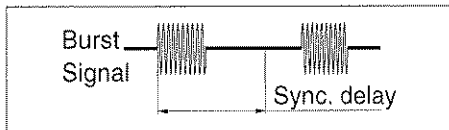

Figure 4-5 Set the sync delay so that it expires in the gap between the bursts.
- Press HOLD OFF **SET** and enter a sync delay longer than the burst duration and shorter than the burst repetition period. See Figure 4-5.
tion and shorter than the burst repetition period. See Figure 4-5.
- Press **HOLD OFF SET** and enter a sync delay longer than the burst duration and shorter than the burst repetition period. See Figure 4-5.
- Press **HOLD OFF SET** and enter a sync delay of approximately 75% of the modulating period. See Figure 4-5.